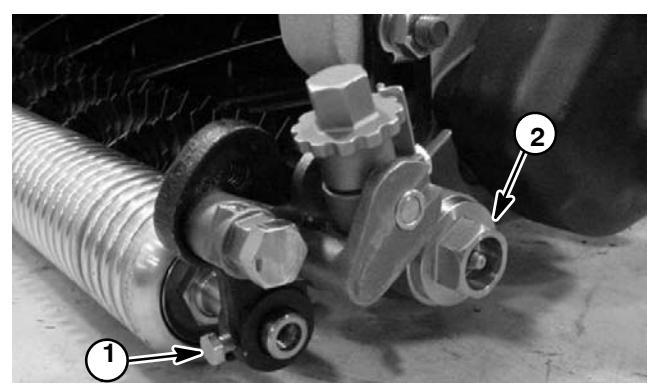

Figure 8
8. Use a 3/8 in. drive wrench to remove drive pulley (item 4) from the cutting reel shaft.
9. Hold the side plate adapters (item 9) with an allen wrench to keep from turning. Remove two lock nuts (item 7) that secure the groomer RH side plate to the side plate adapters. Remove the groomer RH side plate.
10. Remove the cap plug from LH side plate (Fig. 8).
8. Install cap plug (item 22) into LH side plate (Fig. 8).